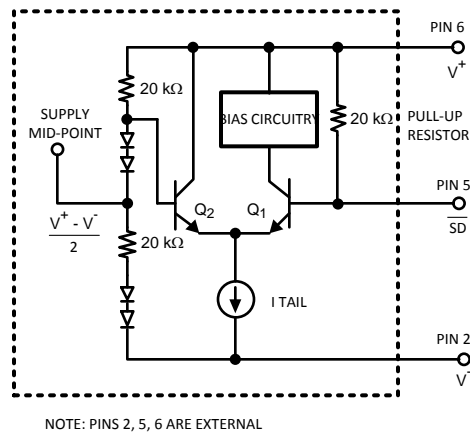

Figure 28. $\overline{\text{SD}}$ Pin Simplified Schematic (SOT-23 Pinout Shown)
For 5-V supplies only, the LMH6703 has a TTL logic compatible disable function. Apply a logic low (< 0.8 V) to the $\overline{\text{SD}}$ pin and the LMH6703 is disabled. Apply a logic high (> 2.0 V), or let the pin float and the LMH6703 is enabled. Voltage, not current, at the Shutdown pin (SD) determines the enable/disable state. Care must be exercised to prevent the shutdown pin voltage from going more than 0.8 V below the midpoint of the supply voltages (0V with split supplies, $V^+/2$ with single supply biasing). Doing so could cause transistor Q1 to Zener resulting in damage to the disable circuit (See Figure 28). The core amplifier is unaffected by this, but the shutdown operation could become permanently slower as a result.